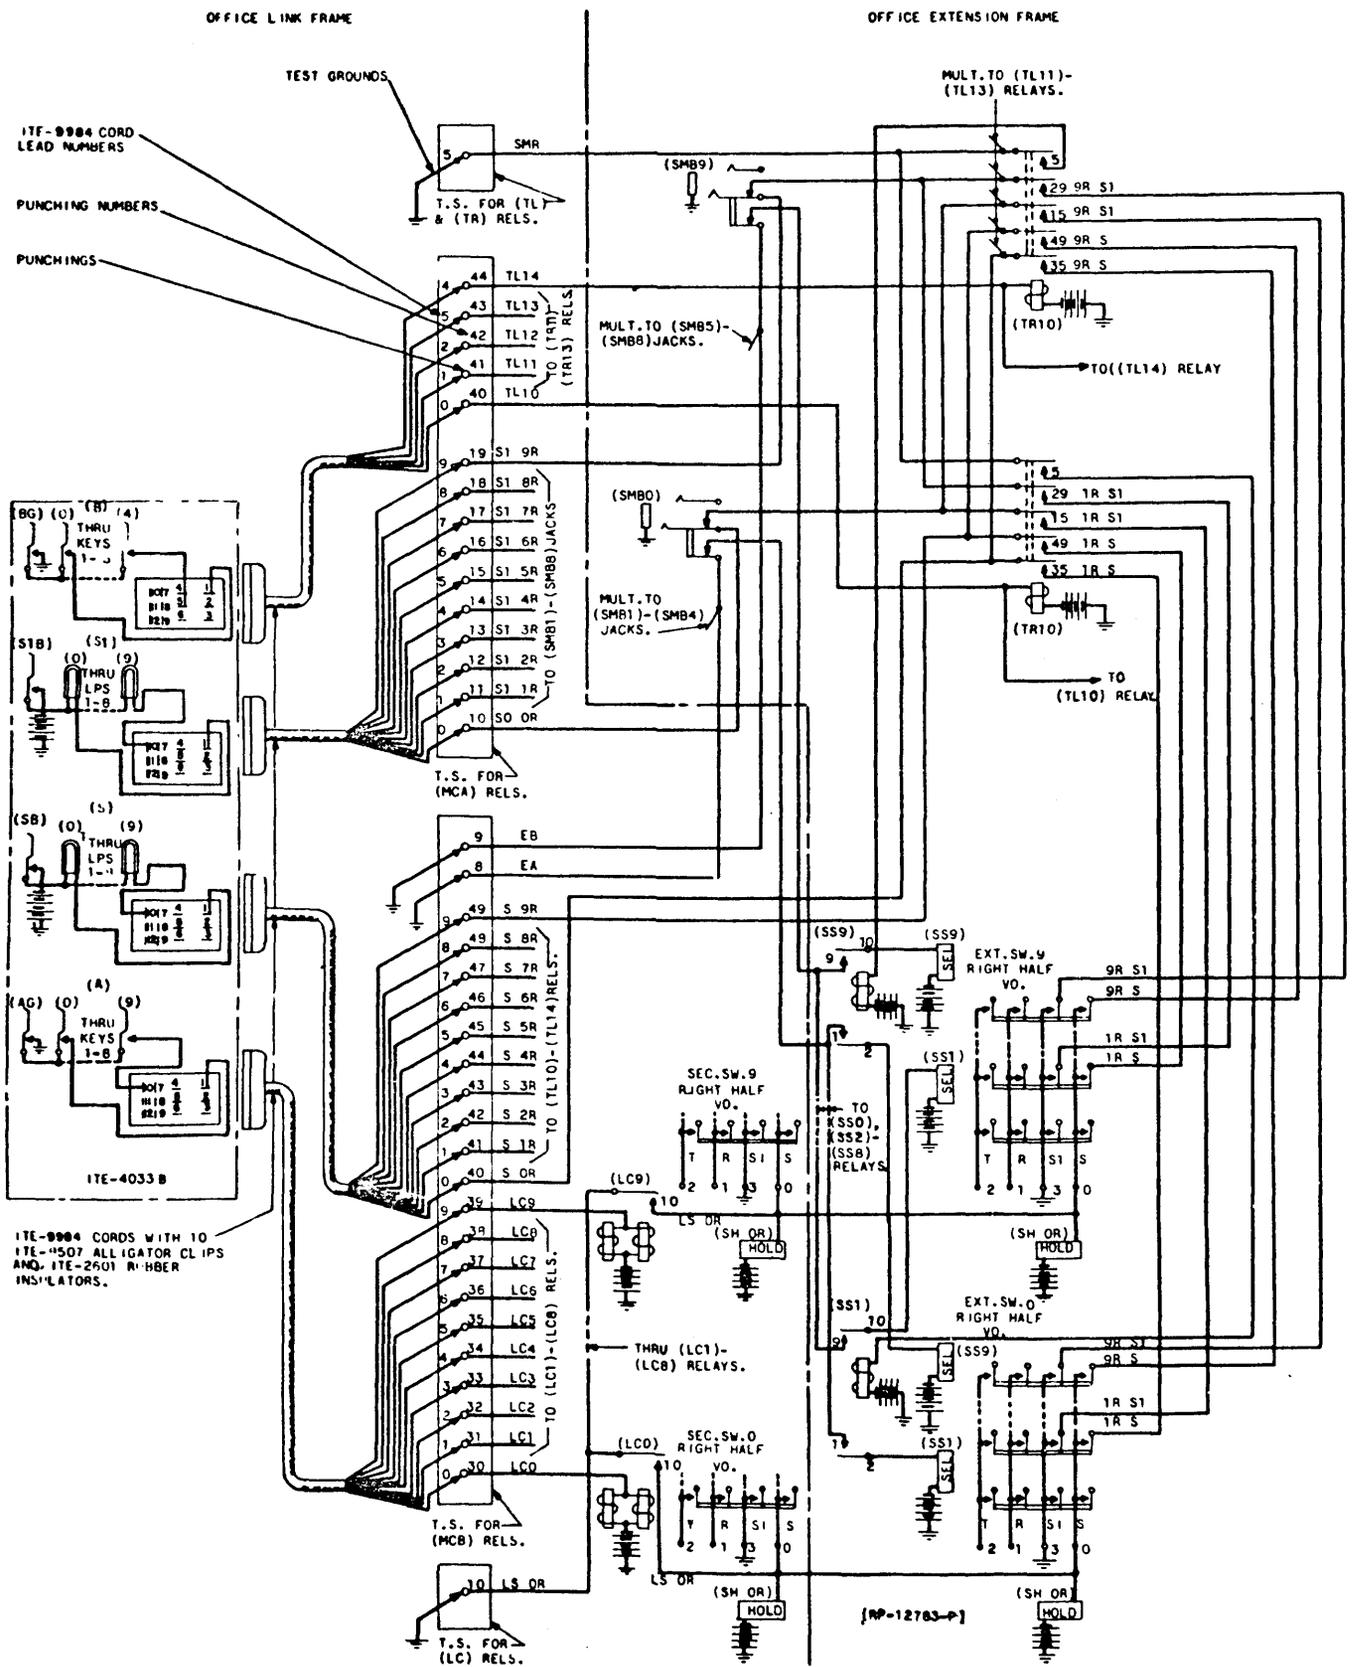

FIG. 12 SETUP FOR TEST OF S AND S1 LEADS,
- 13.21 Setup for Test (See Figure 12)
- 13.211 Change the test setup of Paragraph 13.11 to conform to Figure 12 by making the following change: